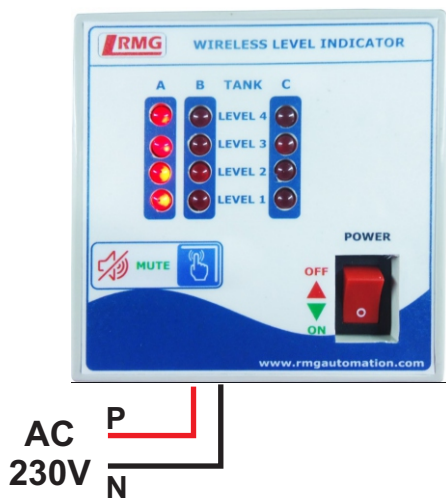

Figure 1: Indicator
Step 2: Give Input AC 230V (phase and neutral) to red and black wire of the indicator unit. (Refer figure. 1).